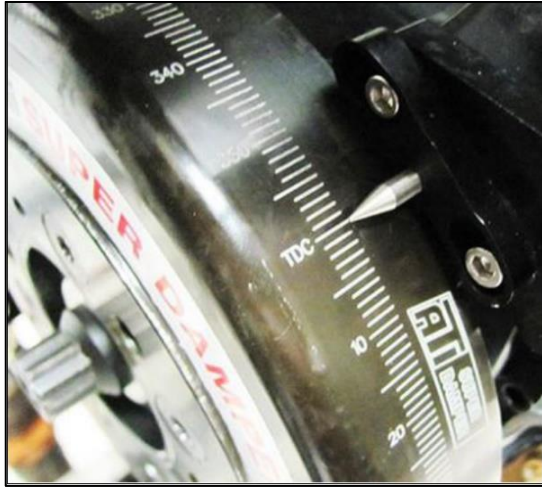

Figure 3: Rotating Engine to TDC #1
1. Manually rotate the engine to TDC (Top Dead Center) of the #1 cylinder as shown in **Figure 3** below.
1. Manually rotate the engine to TDC (Top Dead Center) of the #1 cylinder as shown in **Figure 3** above.